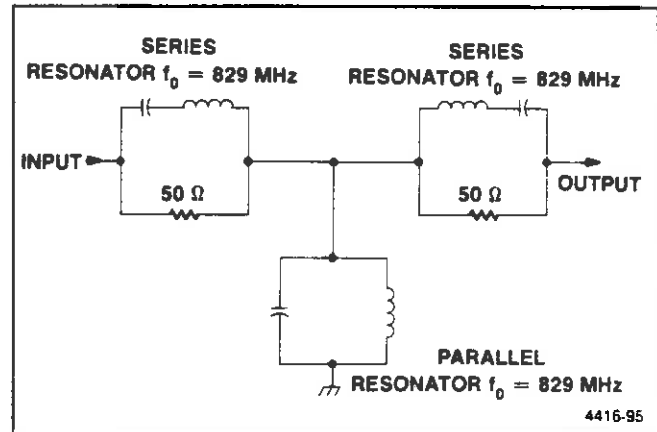

Figure 7-3. Simplified diplexer diagram.
**829 MHz Diplexer.** The 829 MHz Diplexer (A23A4) passes signals at 829 MHz with approximately 1 dB minimum attenuation and 200 MHz pass-band. Frequencies outside the pass-band but between about 50 kHz to 2 GHz are terminated in  $50\Omega$  loads with a match of at least 10 dB. Figure 7-3 shows a simplified schematic of the diplexer.
As shown in the schematic diagram, the diplexer contains components not shown in Figure 7-3. The  $50\Omega$  terminations are actually two pairs of  $100\Omega$  resistors, R1014-R1015 and R1011-R1012, connected in parallel to reduce load inductance. Small capacitors, C1010 and C1013, are connected across each load to improve impedance match at frequencies above the pass-band. The inductor in the parallel resonator is a printed length of transmission line that is tapped to establish the correct bandwidth. One end of this inductor is grounded through four capacitors so that dc bias from the 1st Local Oscillator Driver can be introduced to the 1st Mixer (A12) or the EXTERNAL MIXER input through this diplexer. Several capacitors are used in parallel to minimize inductance and circuit Q degradation. A low-pass filter is included in the bias line to minimize any noise from the 1st LO driver.